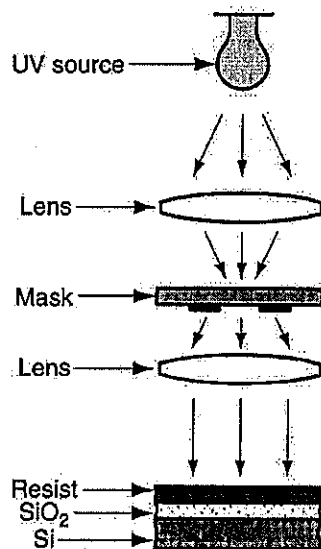

Figure 2
- (a) What is the name of the microelectronics manufacturing process shown in Figure 2? Briefly describe the process. Is this manufacturing process suitable for mass production?